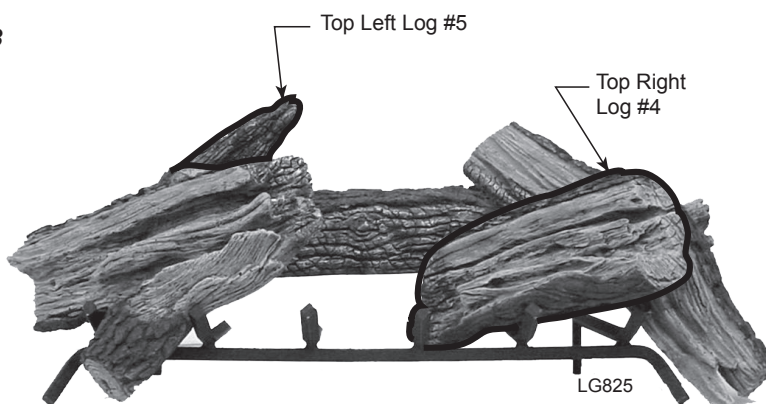

**Figure 54 -
1. Place Rear Log #1 on back of grate. Left side should fit on grate in front of rear stand. Right side goes on the rear stand of grate. *Figure 54*